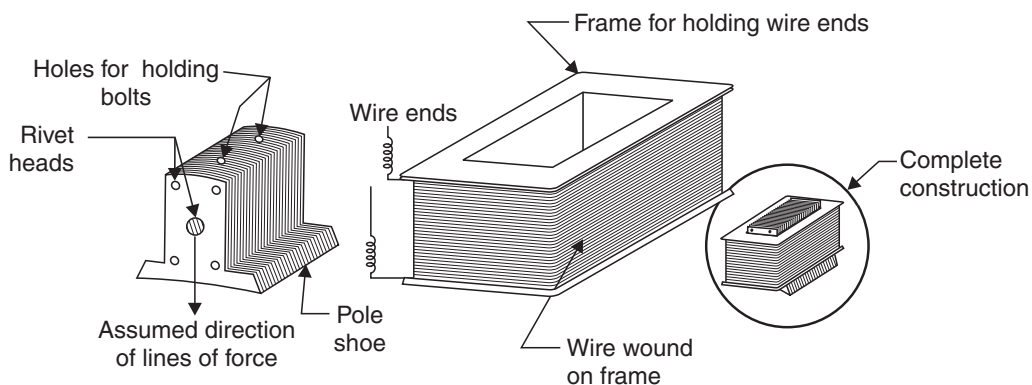

Fig. 3. Constructional details of a field pole.
- Fig. 3 shows the constructional details of a field pole. *The pole shoe acts as a support to the field coils and spreads out the flux in the air gap and also being of larger cross-section reduces the reluctance of the magnetic path.*